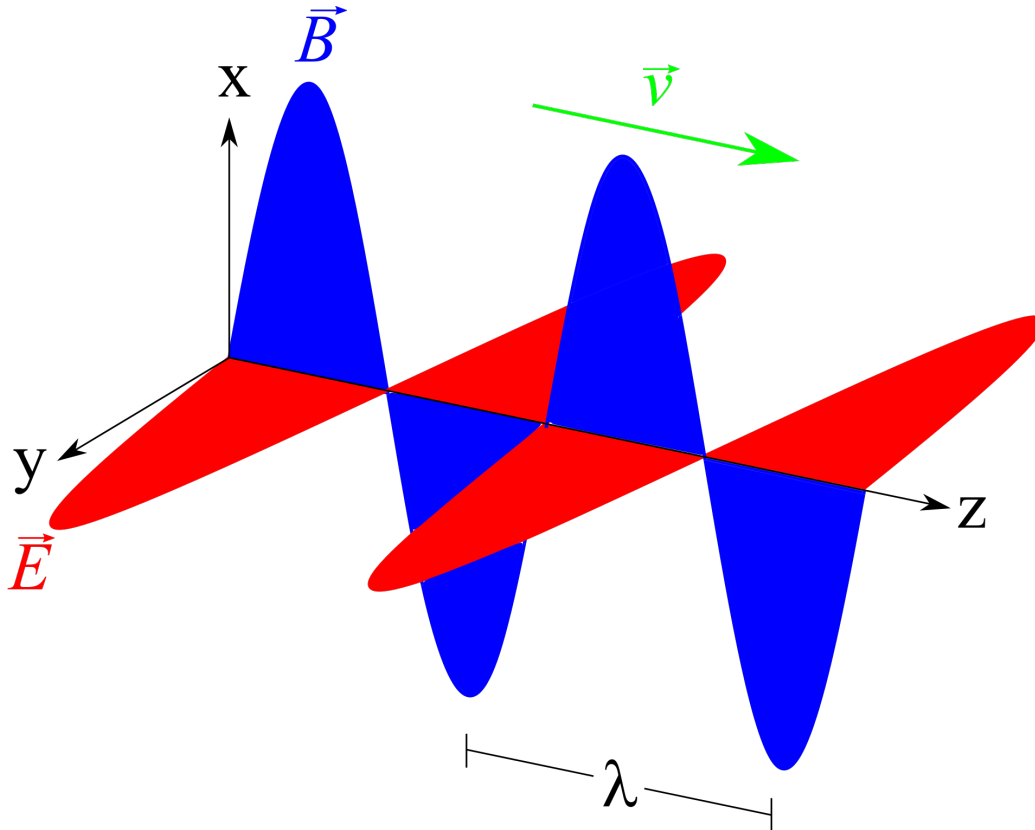

Figure 1: Horizontally-polarized Electromagnetic Plane Wave
Radio-frequency (RF) radiation is one type of electromagnetic radiation. Electromagnetic waves and associated phenomena are described in terms of energy, radiation, and fields. Electromagnetic radiation is defined as waves in electric and magnetic fields moving together, or radiating, through space (Figure 1). These waves are generated by the movement of electrical charge. For example, the movement of charge in a radio station antenna creates electromagnetic waves that are radiated away from the antenna. The waves then induce charge motion in the receiving antenna, which is detected and converted into signal by the radio. The term electromagnetic field refers to the electric and magnetic environment existing at some location due to a radiating source such as an antenna.